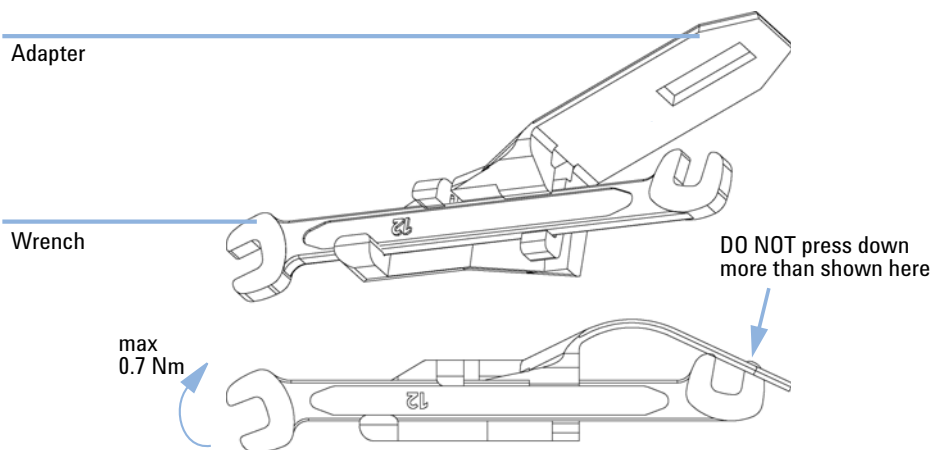

Figure 76 Wrench plus Torque Adapter
- 9** Insert the flow cell capillaries and tighten them fingertight. Use the wrench and torque adapter as described on Figure 76 on page 222 and tighten the fittings alternately.
With the instrument accessory kit comes a 4-mm wrench and with the Sealing Kit a special adapter. Both together work as a torque wrench with pre-defined torque (maximum allowed torque for the cell fittings is 0.7 Nm). It can be used to tight the capillary fittings at the flow cell body. The wrench has to be plugged into the adapter as shown in Figure 76 on page 222.